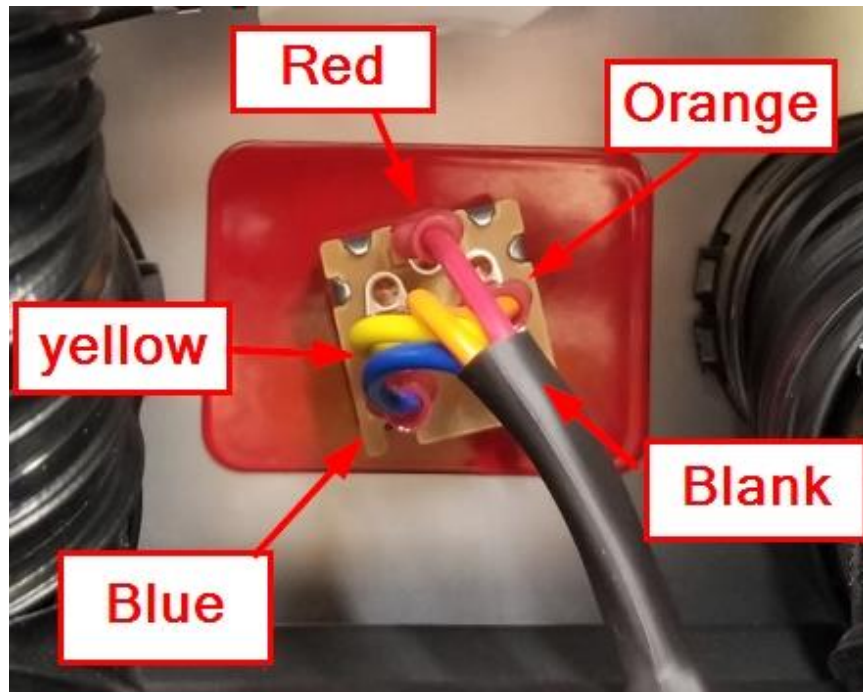

Figure 20
- a. Using the included wiring harness, insert the 1/4" Spade (female) terminals on to the back of the switch as shown in Figure 20.